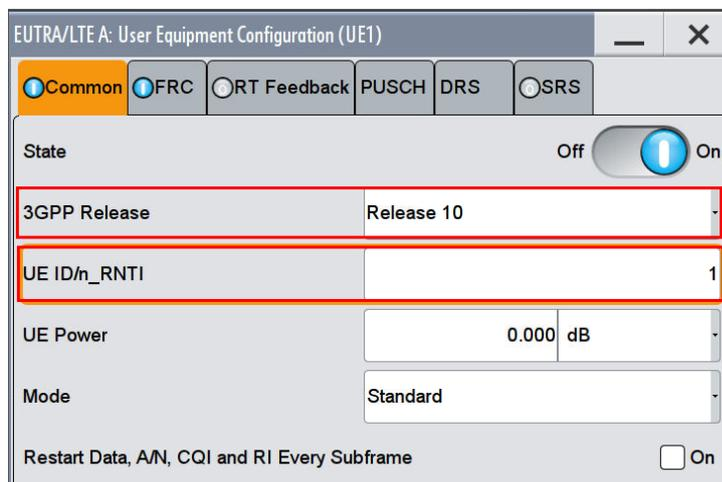
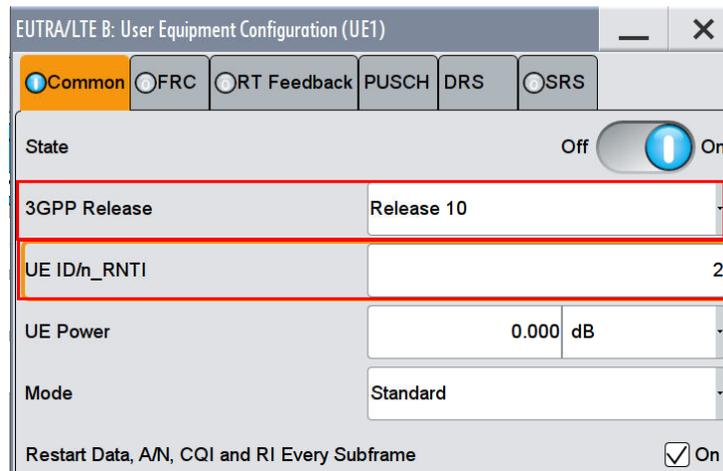

Fig. 3-53: Setting UE1 Configuration for the mobile UE (Baseband A)
Fig. 3-54: Setting UE2 Configuration for the stationary UE (Baseband B)
6. Set two different UE ID/n_RNTI (example: path A: 1, path B: 2) (Fig. 3-53 and Fig. 3-54)